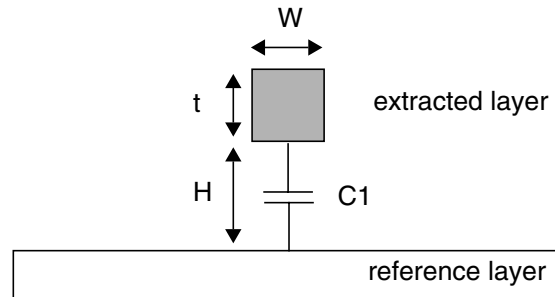

Figure 1: Best design case structure
This structure (see Figure 1) represents the "best design case" for a line i.e. a reduced coupling environment. To evaluate the impact of the distance (H) we present the lumped capacitance for each metal combination.